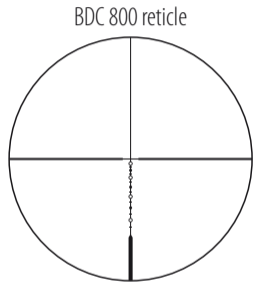

Fig. 3
(1) Focusing
- 1 Look through the eyepiece with your eye positioned about 4 in. (10 cm) away from the eyepiece to see the BDC 800 reticle (Fig. 3).